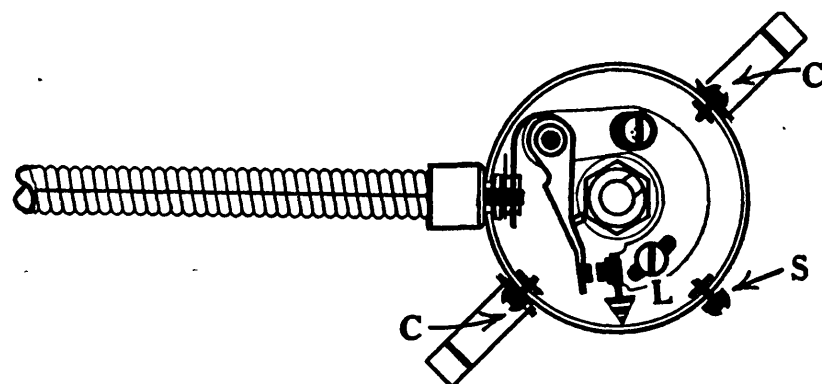

FIG. 14.
By referring to Fig. 14 it will be seen that there are 3 screws ("C", "C" and "S"), which anchor the distributor breaker plate assembly to the distributor base. The heads of the screws are on the outside of the base, two of them ("C" and "C") also serving to hold the Distributor Cap spring clips.
6. The stationary point is changed by removing LOCKING SCREW "L" (Fig. 14) and lifting the point up and out.